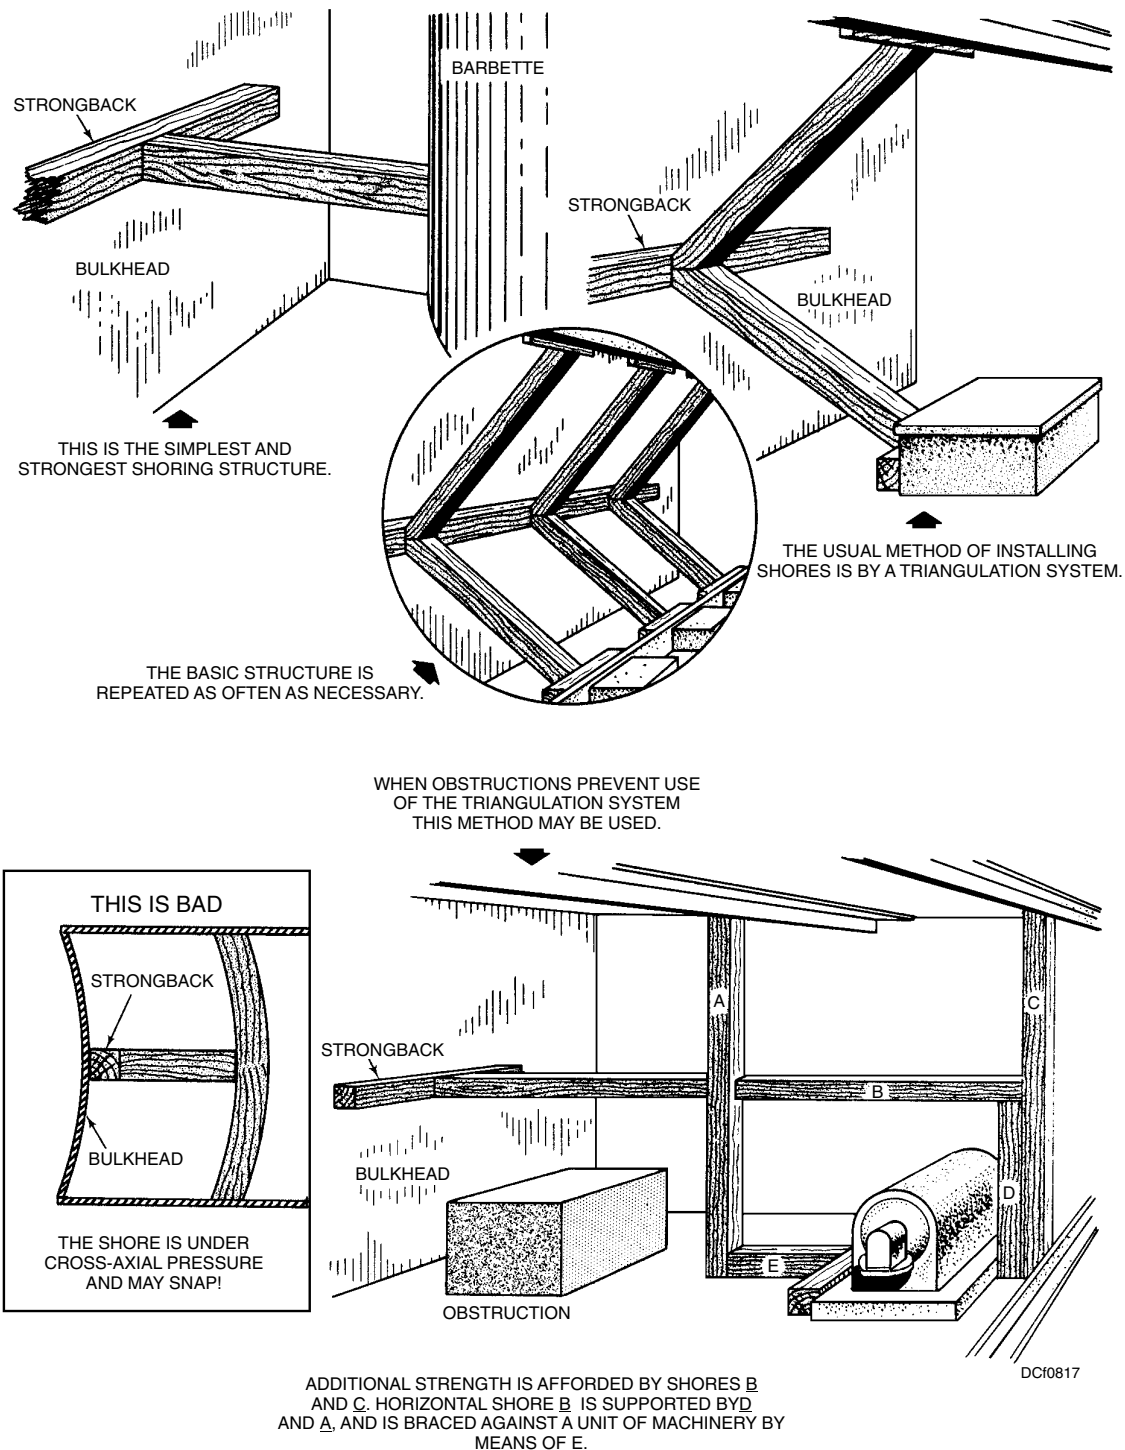
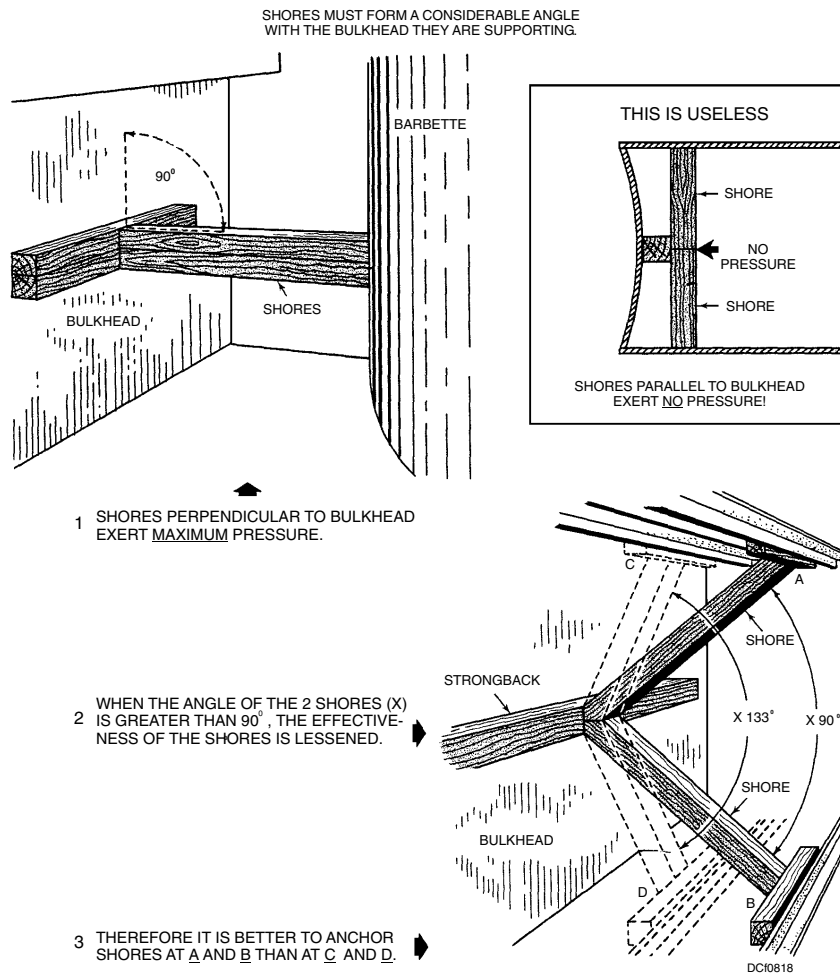

Figure 8-17. Shoring against horizontal pressure.
Figure 8-18. Shoring angles.
- Spread the pressure. Make full use of strength members by anchoring shores against beams, stringers, frames, stiffeners, stanchions, barbettes, and so forth. Place the legs of the shoring against the strongback at an angle of 45° or 90° if at all possible. Figure 8-17 shows the simplest and strongest shoring structure; figure 8-18 shows shoring angles.